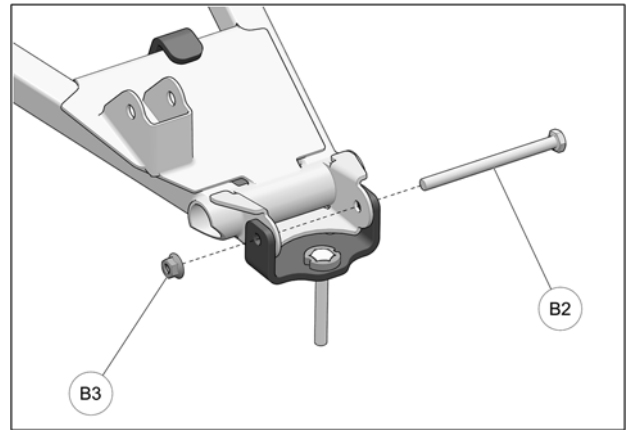

Fig. 8
8. Insert the new M10x130mm bolt (B2) through anchor bracket, suspension arm and wheel knuckle. Secure assembly with the provided M10 nut (B3). Torque nut to 50 N•m [37 lb•ft]. See Fig. 8